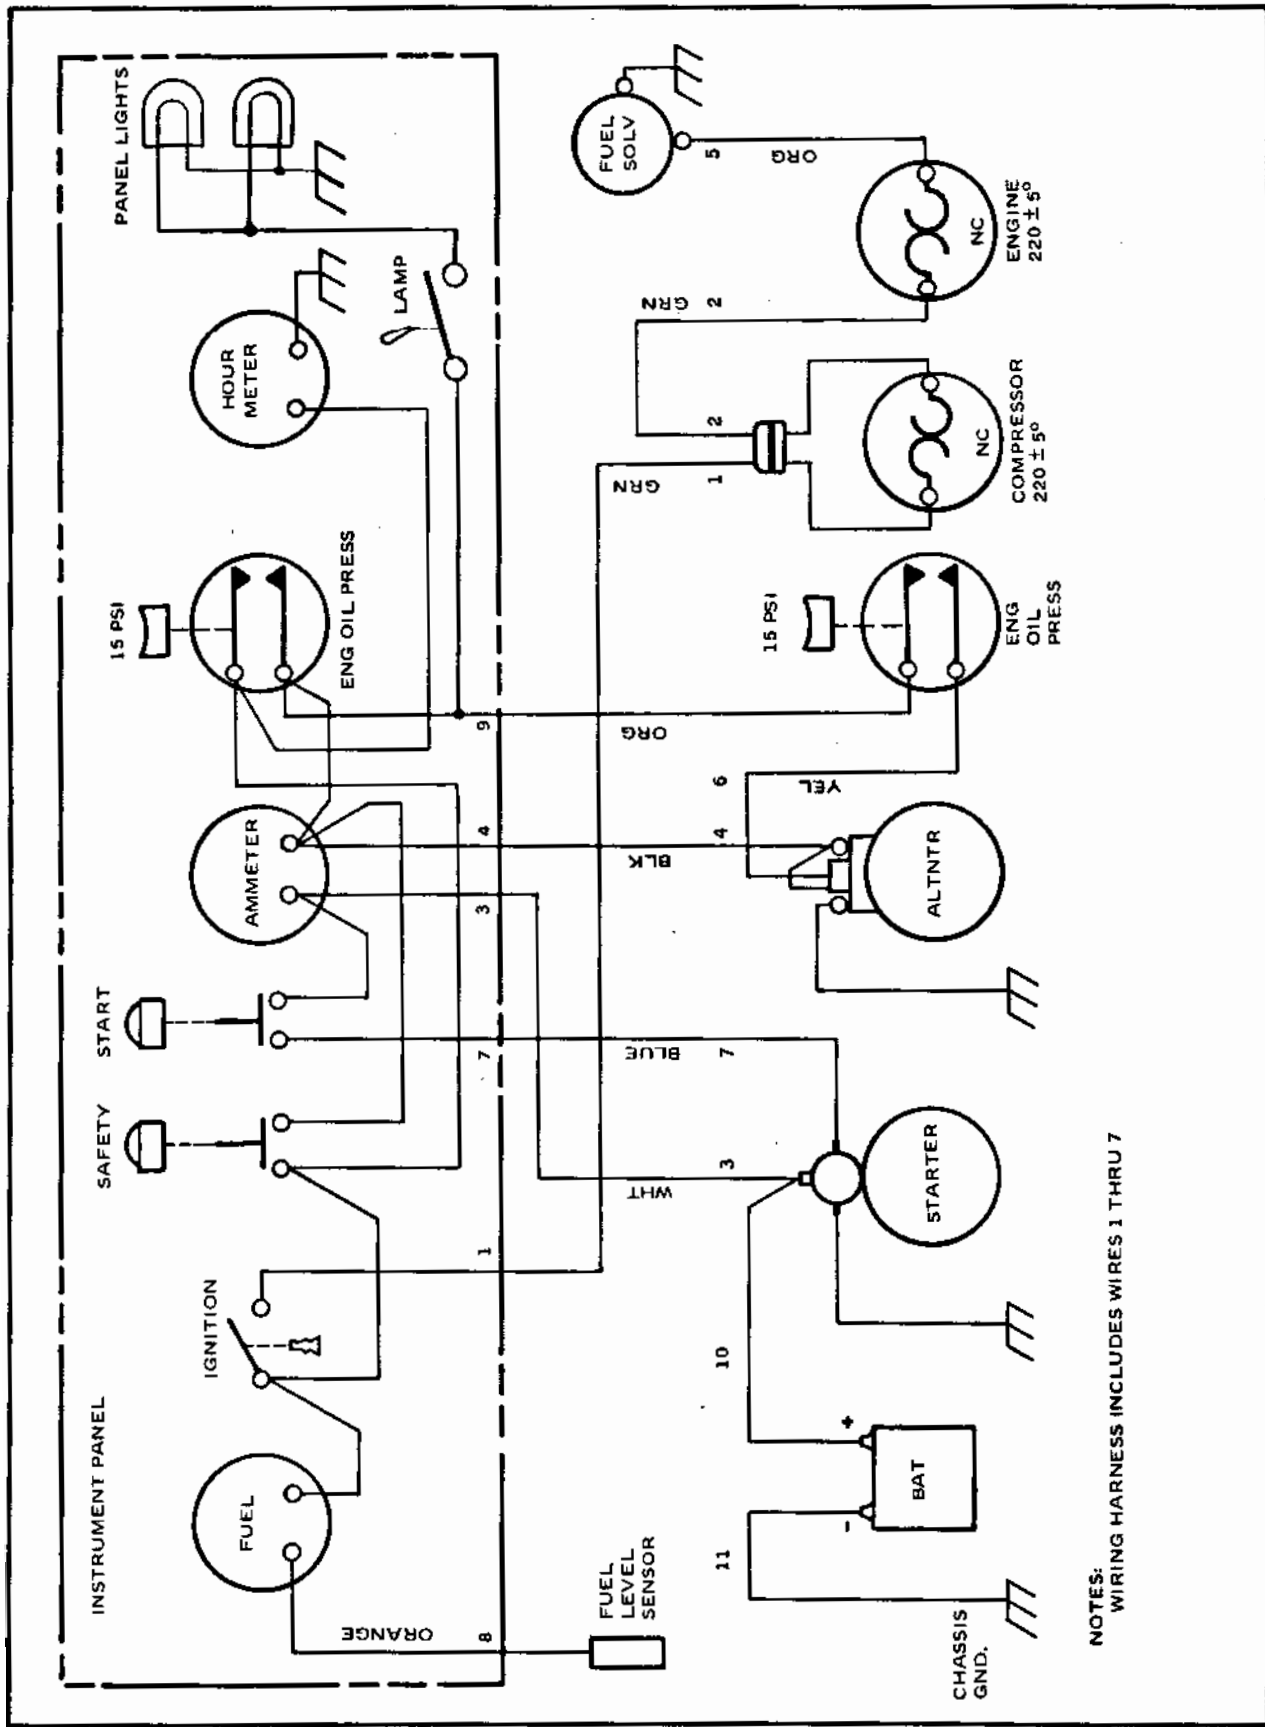

Figure 2-3. Wiring Diagram
1-6. **ELECTRICAL SYSTEM.** This unit is equipped with a 12 volt electrical system with current being supplied by an alternator. Refer to Part II of this manual for alternator details and figure 2-3 for wiring diagram of the units electrical system.
j. **AMMETER.** This gauge indicates the charge or discharge rate of the battery. Refer to figure 2-3 for wiring diagram.